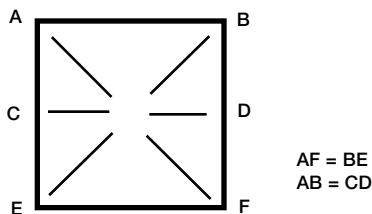

Figure 3
7. Individual damper sections, as well as entire multiple section assemblies must be completely square and free from racking, twisting, or bending. Measure diagonally from upper corners to opposite lower corners of each section (see Figure 3 & 4).